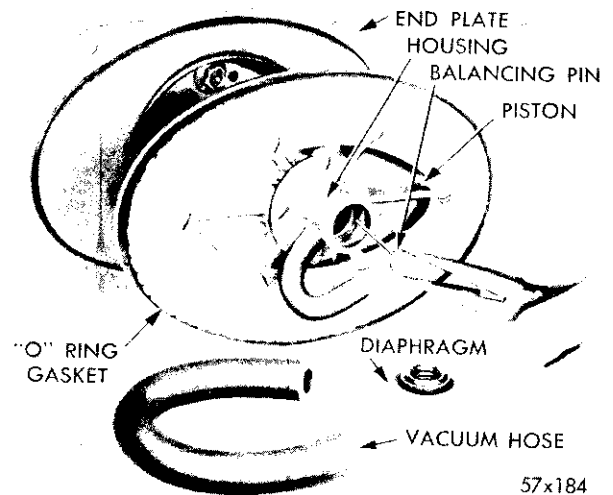

Fig. 49—Removing or Installing the Balancing Pin
(3) Remove the hose from the vacuum tube. Remove the balancing pin diaphragm from the end of pin housing. Using long nose pliers, remove the balancing pin, as shown in Figure 49.